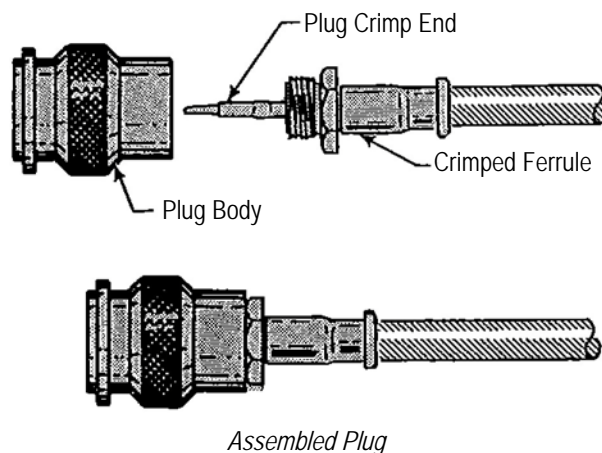

Figure 7
2. Assemble the plug crimp end and plug body in the same manner as shown for the jack assembly. See Figure 7.